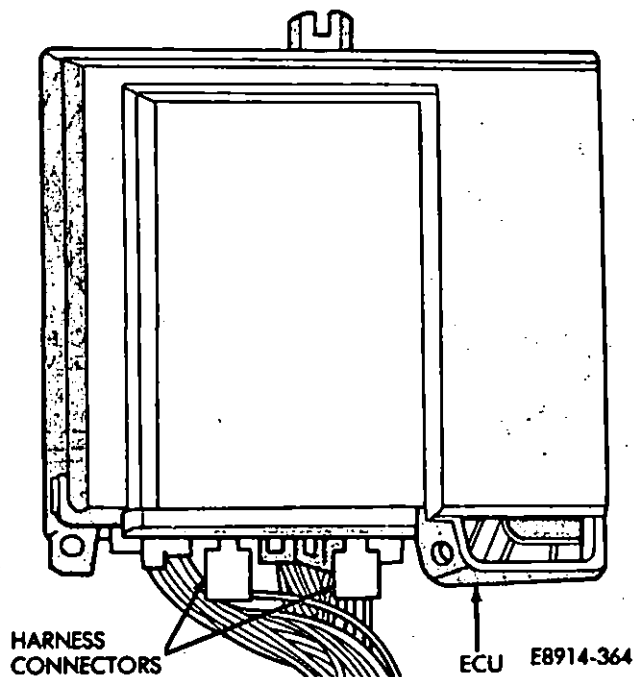

Fig. 18—ECU Connectors
- (3) Disconnect the harness connectors from the ECU (Fig. 18).